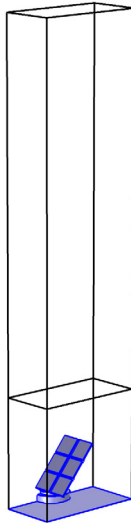

Figure 4: Computational box used in the fluid-flow simulation.
- 1 The fluid-flow geometry is defined tall enough to capture a boundary layer type flow reaching above the array of solar panels; see Figure 4. A mapped mesh is used in the solar panels, and the fluid domain is refined to resolve the flow field. The definition of the geometry and the mesh are very important for this model, but they are rather long